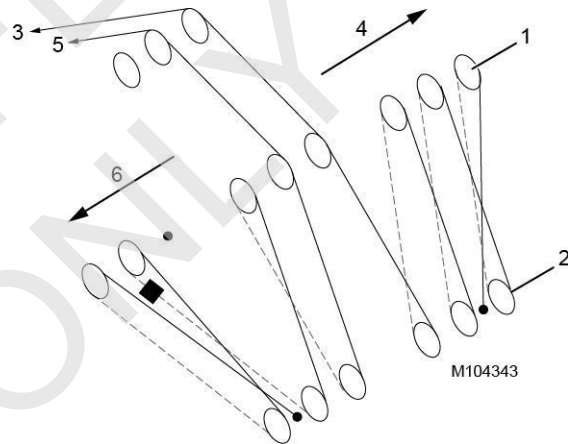

Figure 3-22. Example of Boom Point Reeving for Tandem Drums
- With both tandem drums unparked, the middle handle on the right console controls the drum that is configured for the right side boom point sheaves (Figure 3-22) independently if needed. Doing this will activate a fast beeping signal in the cab. The drum identifier will indicate the number of the drum that is configured for the right side boom point sheaves.
- If the drum that is configured for the right side boom point sheaves is parked, the left handle on the right console controls the drum for the left side boom point sheaves (Figure 3-22) independently if needed. The drum identifier will indicate the number of the drum that is configured for the left side boom point sheaves.